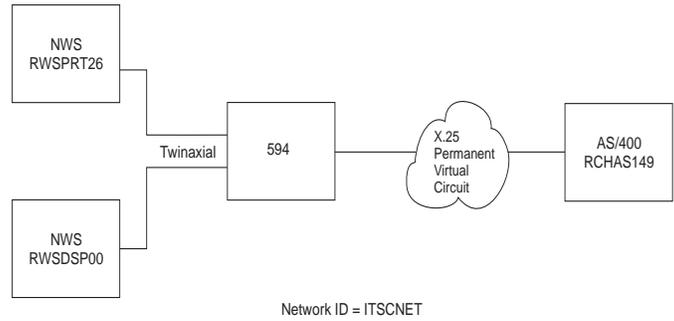

Fig. 7: X.25 Permanent configuration
- Fig. 7: X.25 Permanent configuration 5